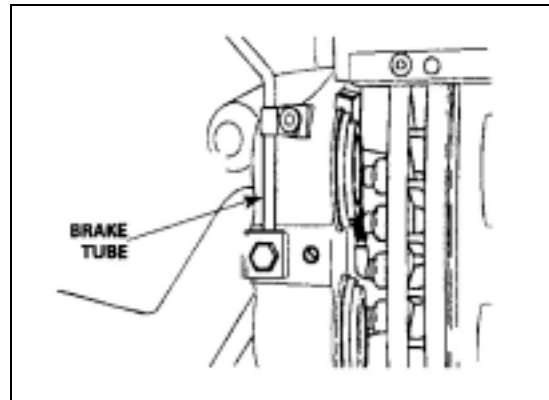

Figure 19
2. To install, reverse the removal process. **Figures 19 and 20.**